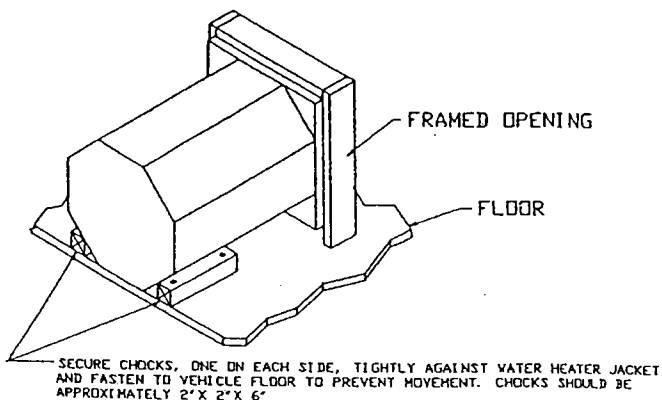

Figure 1A
- C. Install chocks, one on each side of water heater, as illustrated in Figure 1A.
- G. Insert door frame into control housing and secure with three (3) No. 8-15 x 3 1/2" screws provided.
- H. Install chocks, one on each side of water heater, as illustrated in Figure 1A.